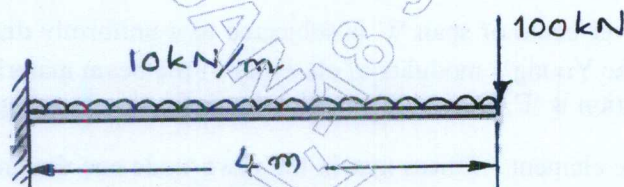

Fig.Q7(b)
b. Determine the maximum deflection of the cantilever beam with uniform cross section as shown in Fig.Q7(b), by assuming the beam as a single element. Take $E = 7 \times 10^9 \text{ N/m}^2$, $I = 4 \times 10^4 \text{ m}^4$.